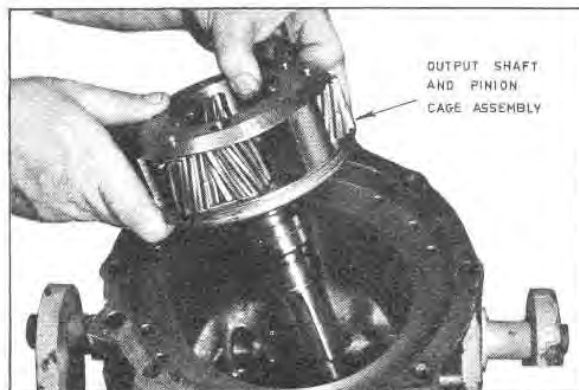

Fig. G53 — Installing Pinion Cage and Output Shaft Assembly
10. Place the forward and reverse transmission case, rear face down, with parts assembled in steps (1) to (9) on a suitable ring or support which will clear the outside diameter of the output shaft.
11. Lower the pinion cage and output shaft assembly, into the output shaft bore of the housing (Figure G53). Care should be taken not to damage the output shaft bushings in the housing during this operation.